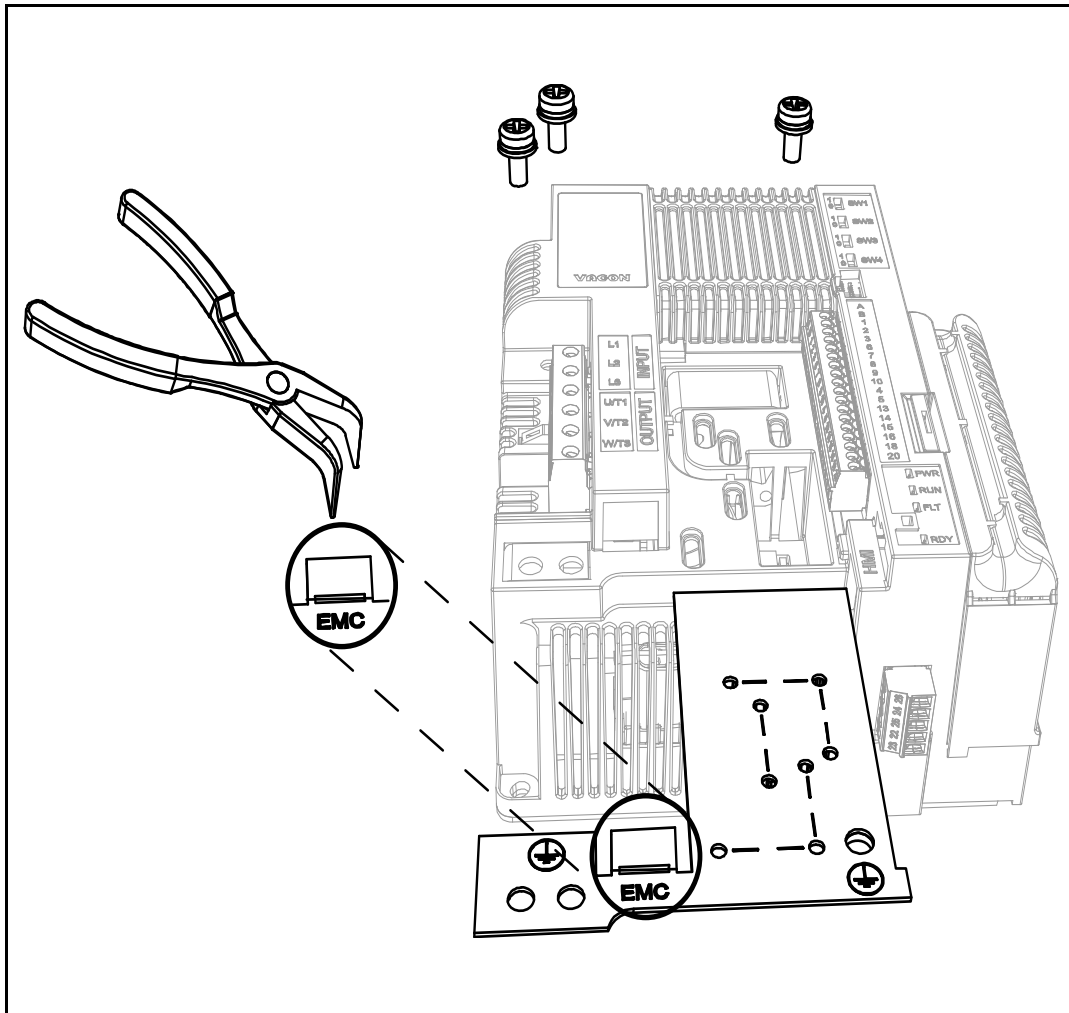

Figure 42. Changing of the EMC class in MU2 control unit.
**2** Remove the EMC plate from the control unit. Then lift the plate with pliers to disconnect the EMC plate from the ground. See Figure 42.